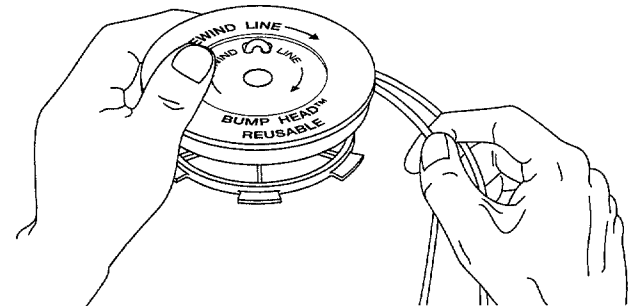

Figure 26
- Wind the lines in tight even layers, onto the reel. Wind the line in the direction indicated on the inner reel. Place your index finger between the two lines to stop the lines from overlapping. Do not overlap the ends of the line. See Figure 26. Proceed to step 11.